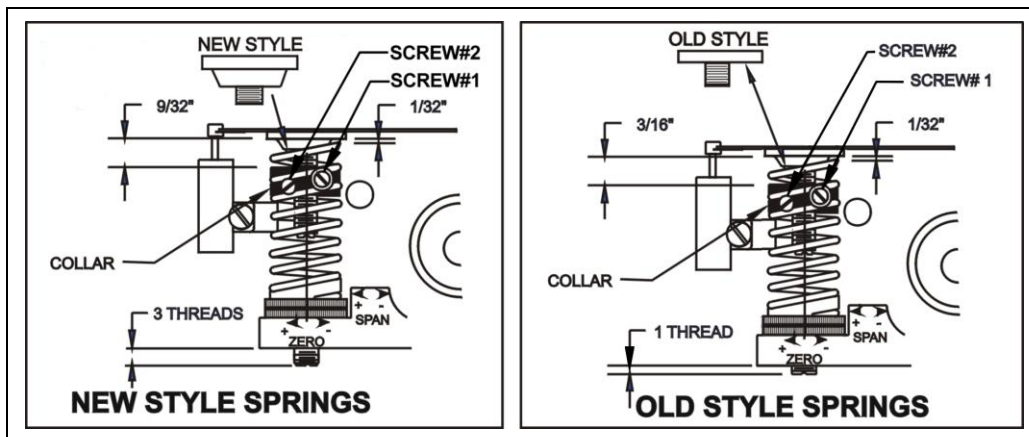

Figure 7 – Spring Styles
*Depending on spring style—see Figure 7